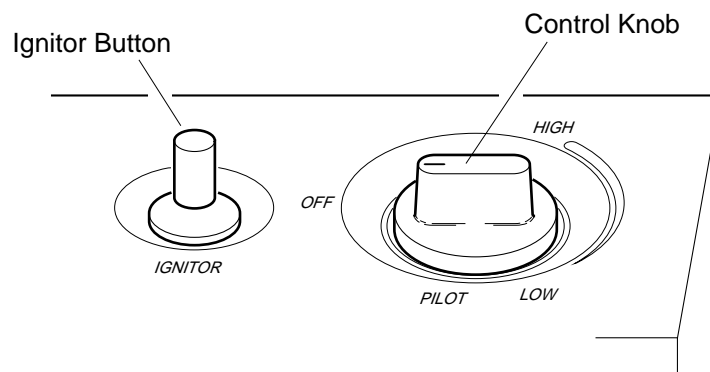

Figure 18 - Control Knob In The OFF Position
4. Wait five (5) minutes to clear out any gas. Then smell for gas, including near the floor. If you smell gas, STOP! Follow "B" in the safety information at the top of page 20. If you don't smell gas, go to the next step.
5. Press in control knob and turn counterclockwise  to the PILOT position. Keep control knob pressed in for five (5) seconds (see Figure 18).